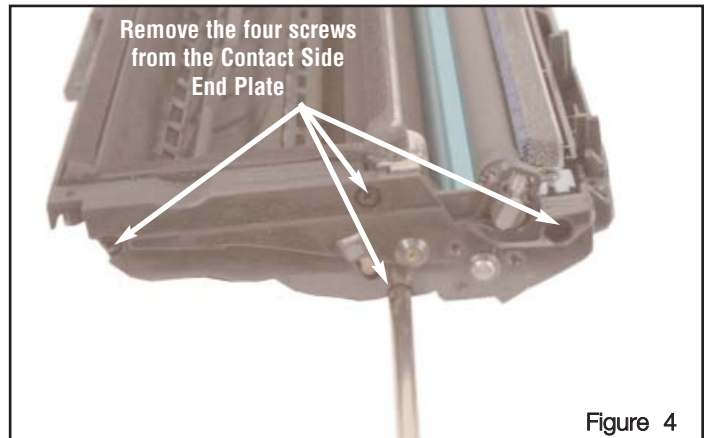

Figure 4
- a. Using a phillips screwdriver, remove the four screws from the Contact Side End Plate, see Figure 4.